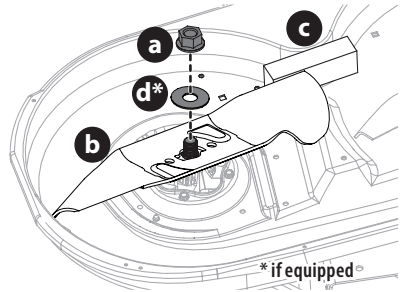

Fig. 51
2. Place a block of wood (c) between the deck housing and the cutting edge of the blade (b) to help in breaking loose the hex nut (a) and washer (d)* securing the blade (b). Use a 15/16 inch wrench to loosen the hex nut (a) and washer (d)* (Fig. 51).
3. When re-installing blades, be sure of the following (Fig. 51):